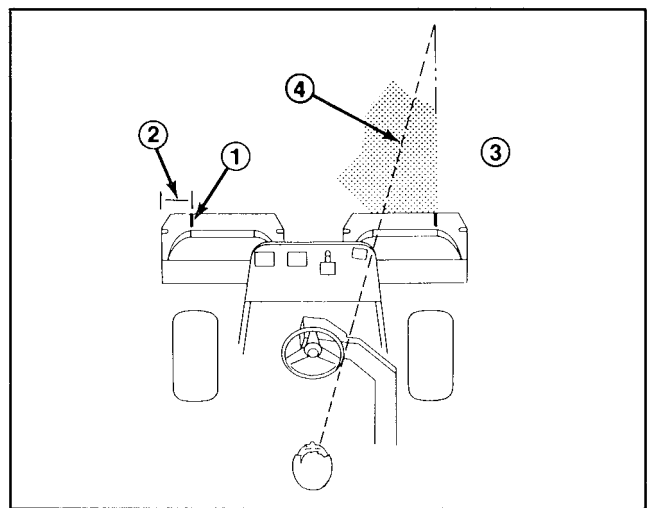

Figure 23
- Either place a strip of white tape or paint a line onto each basket paralleling the outer edge of each basket (Fig. 23)
3. Overlap a minimal amount with the previous cut on return passes. To assist in maintaining a straight line across the green and keep the machine an equal distance from the edge of the previous cut, establish an imaginary sight line approximately 6 to 10 feet ahead of the machine to the edge of the uncut portion of the green (Fig. 23 & 24). Some find it useful to include the outer edge of the steering wheel as part of the sight line; i.e. keep the steering wheel edge aligned with a point that is always kept the same distance away from the front of the machine (Fig. 23 & 24).